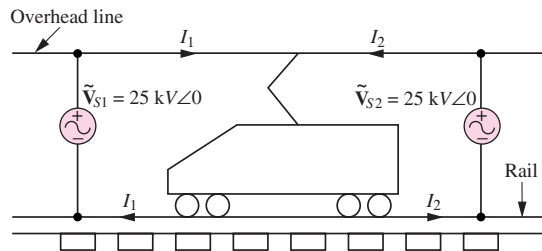

Figure P7.21
**7.21** The French TGV high-speed train absorbs 11 MW at 300 km/h (186 mi/h). The power supply module is shown in Figure P7.21. The module consists of two 25-kV single-phase power stations connected at the same overhead line, one at each end of the module. For the return circuits, the rail is used. However, the train is designed to operate at a low speed also with 1.5-kV DC in railway stations or under the old electrification lines. The natural (average) power factor in the AC operation is 0.8 (not depending on the voltage). Assuming that the overhead line equivalent specific resistance is  $0.2 \Omega/\text{km}$  and that the rail resistance could be neglected, find